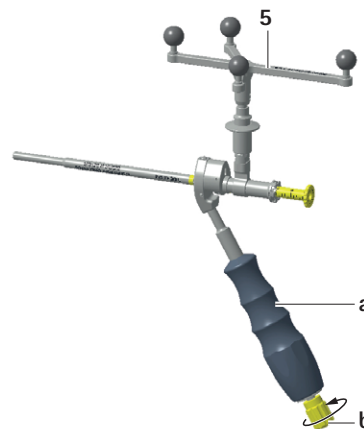

Fig. 3
- ▶ Mount the navigation adapter 5 (SZ091R) onto the universal drill guide a (SZ055R/SZ143R), see Chapter 3.2.1, see Fig. 3.
- ▶ To ensure that the camera has an unrestricted view of the reflective marker spheres, loosen knob b on the handle of the drill guide and rotate the navigation adapter 5 to the desired position. Once the desired position is reached, tighten the knob b again, see Fig. 3.